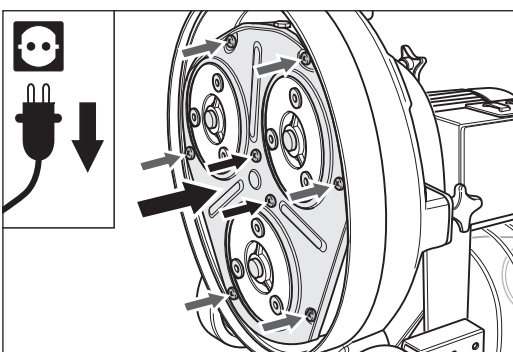

Fig. 106 Replace the cover and fix it in place using the eight screws.
- 9** Put the cover back on in the proper position. The seal must be positioned evenly around the sanding plate pulleys. Use two screws to hold it in place initially before replacing the other screws (fig. 106).